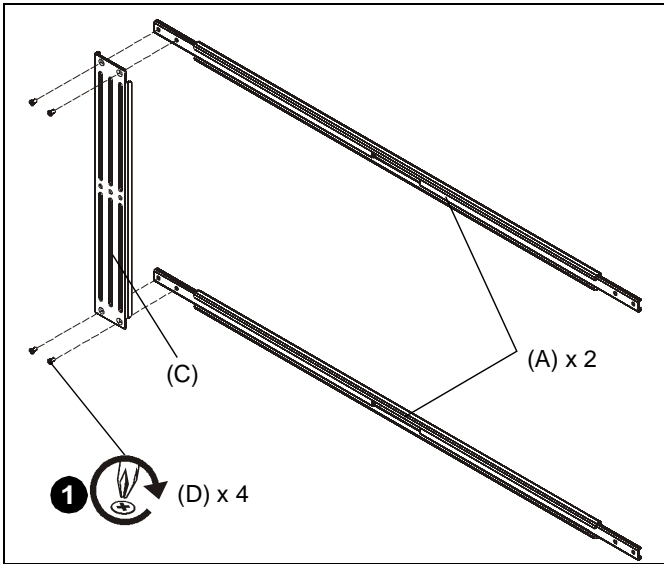

Figure 5
1. Use four #10-24 x 3/8" Phillips machine screws (D) to connect one speaker bracket (C) to upper and lower horizontal brackets (A). (See Figure 5)